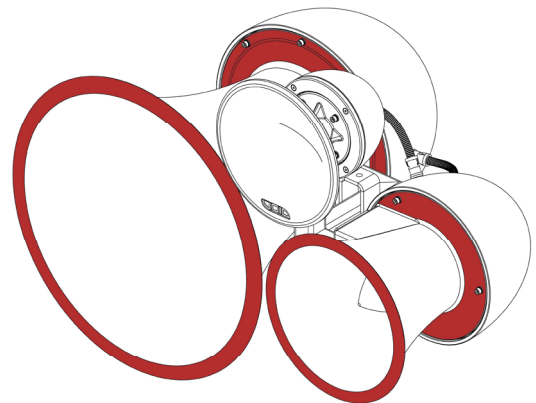

Figure 2.1: Safe handling positions diagram (as indicated in red)
- To remove from the transport case, each person should hold the Air Motion on each side, with one hand on the edge of the horn flare, and the other supporting the weight of the drivers to the rear, as shown in figure 2.1